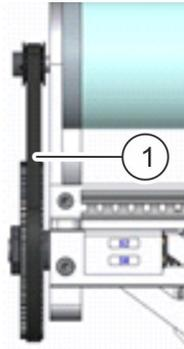

Fig. 19: Replacing the tooth belt
3. ➤ Remove the old tooth belt (Fig. 19/1).
4. ➤ Position the new tooth belt (Fig. 19/1).